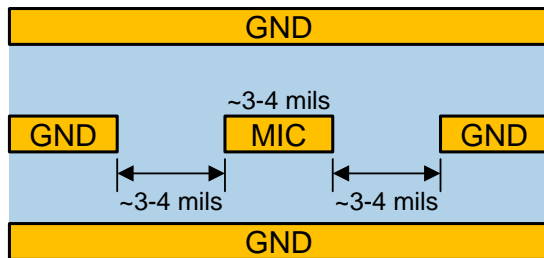

Figure 4. MIC PCB Trace as Shielded Stripline
For the MIC and ground signals between the audio jack and FSA8039, decrease the spacing between these traces to increase the inductive coupling of these signals. In effect, this creates a low-frequency band-pass filter that shunts ESD energy to ground before it reaches internal components. Where feasible, lay the MIC trace as a shielded stripline; an example is shown in Figure 4.
- Stitch ground traces to the ground plane at the device, where possible (see Figure 4).
- Flood ground; where possible (see Figure 4).